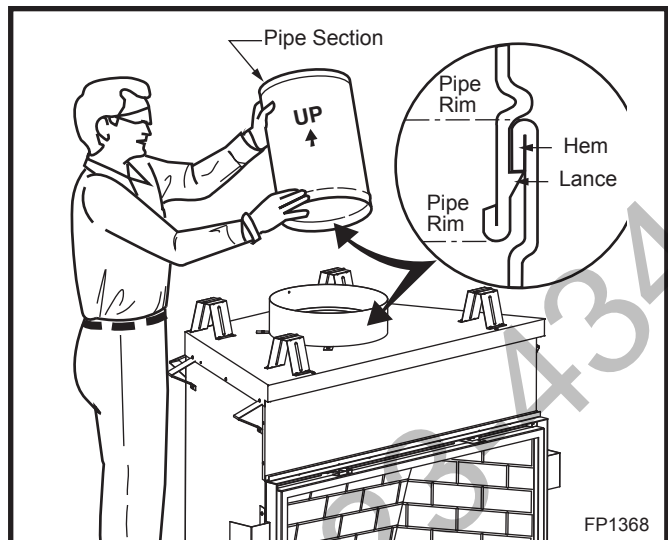

Fig. 14 Install pipe, listening for the snap-lock to fasten.
Install the pipe as shown in Figure 14. When you get a good lock, you will hear the pipe clearly snap together. Once sections are snap-locked in place, it is extremely difficult to get them apart. Make sure the pipe is firmly snapped and locked together as each pipe section is mounted. When using 45° or 90° elbows, it is acceptable to use three (3) screws (not supplied) at the joint between the vertical SK8 pipe and the elbow to ensure no separation.